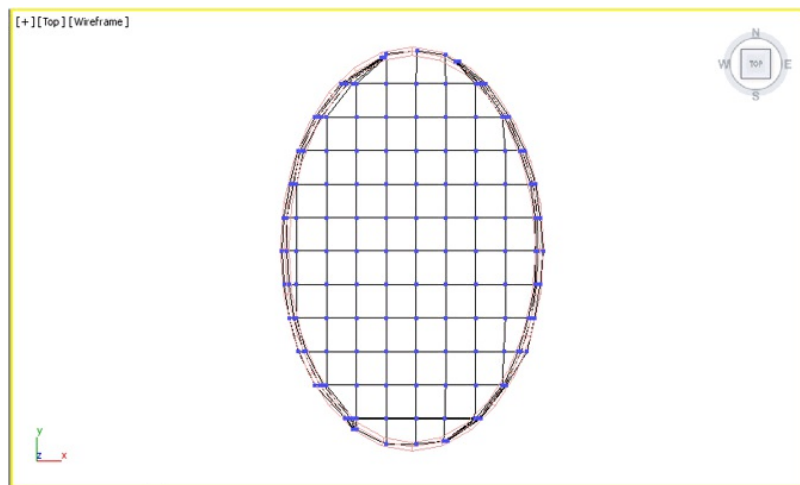

Figure 12-78 All outer vertices arranged to form the shape of the head
13. Follow the procedure discussed in steps 10 and 11 for the outer vertices and arrange them, as shown in Figure 12-78. Choose the **Vertex** button again in the **Selection** rollout to exit the sub-object level.